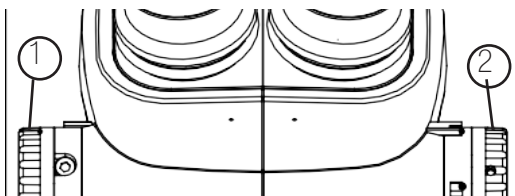

Fig.8
1. Use the left (1) or right zoom knob (2) to increase or decrease magnification. (See Fig. 8)